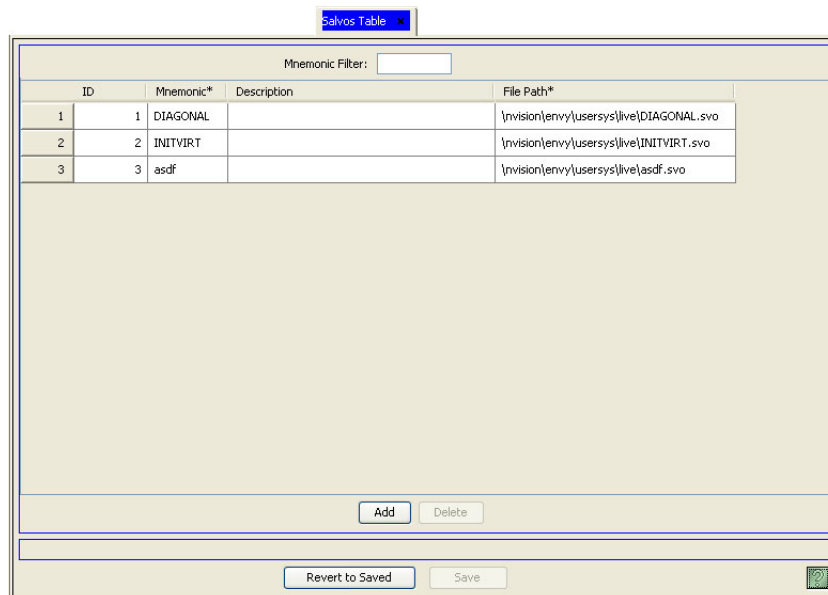

Figure 15-4. Salvos Table
- 2 From the Navigation area, select the ‘Views’ pane and then ‘Salvos’. The ‘Salvos’ table appears, as shown in Figure 15-4.